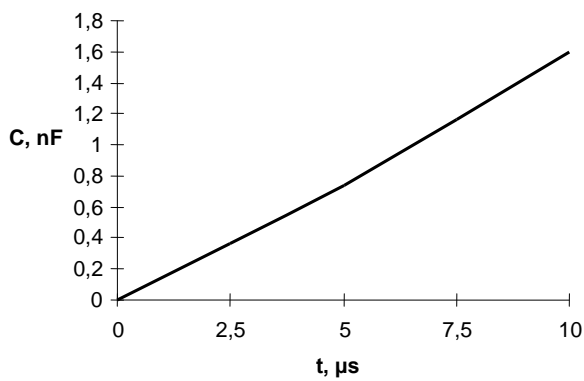

Figure 9 – Dependence of «dead time» duration versus capacitance rating  $C_{dt}$
**CDT H1, CDT H2, CDT H3, CDT L1, CDT L2, CDT L3** – capacitors for duration adjustment of switch-on delay of relevant controlled transistor (“dead time” duration for switching). Delay for switching when a capacitor is not installed will be 0  $\mu$ s and “dead time” for switching will be absent. Initially (initial settings at supply) capacitors are installed corresponding to “dead time” 2.5  $\mu$ s. The dependence of duration of “dead time” versus the capacitors rating is shown on Figure 9.